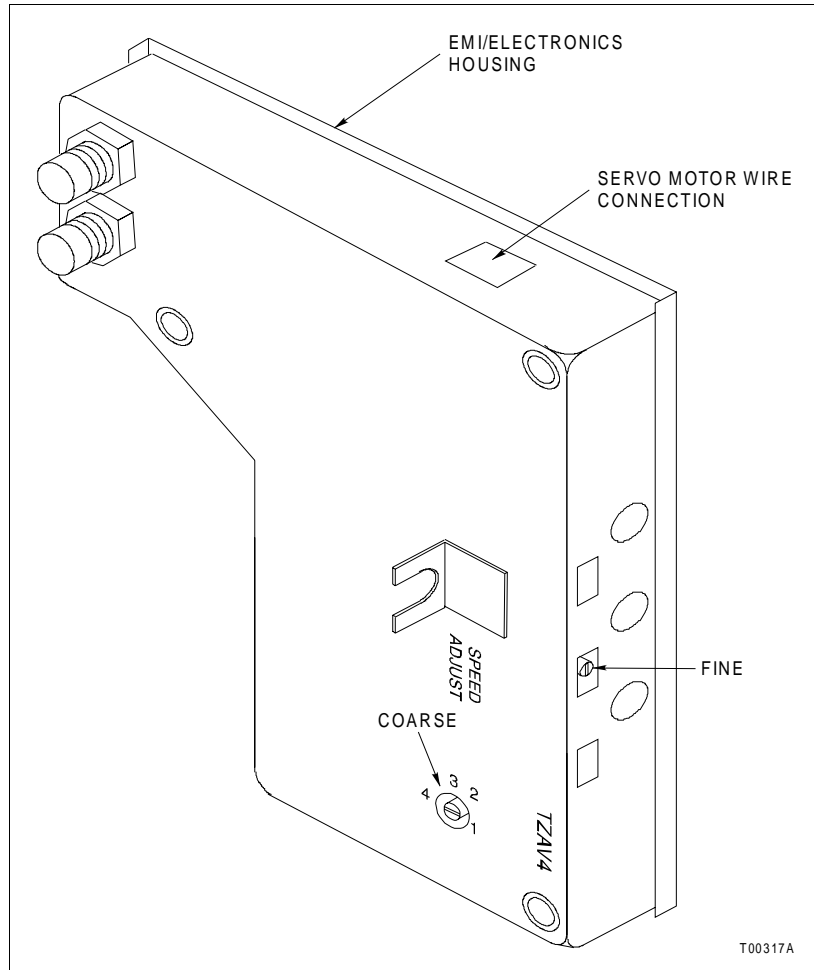

Figure 4-3. Type AV4 Positioner Motor Speed Adjustments
The speed of the pulse to pneumatic (P/P) converter can be adjusted with the coarse and fine speed adjustments located on the EMI/electronics housing enclosure (Fig. 4-3). Speed in this case is defined as the time it takes the P/P converter to make a full scale 20.4 to 103.0 kilopascals (three to 15 pounds per square inch gage) or 103.0 to 20.4 kilopascals (15 to three pounds per square inch gage) signal change.
1. Set the COARSE adjustment to 1 (Fig. 4-3).
2. Set the FINE adjustment to the fastest speed (fully clockwise) (Fig. 4-3).
6. Turn the FINE adjustment potentiometer counterclockwise (Fig. 4-3) by an estimated number of turns to achieve a motor speed that equals the speed of the actuator measured in Step 4.